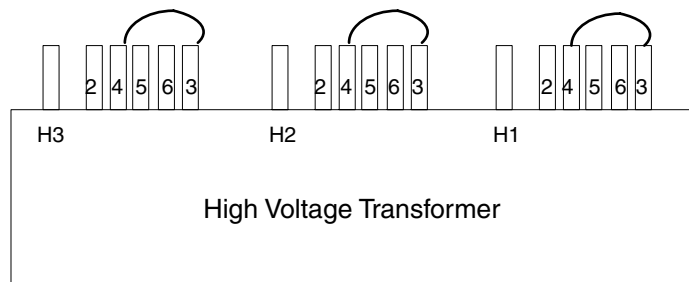

Figure 5-5 PDU Tap Positions (Rear)
- 4.) After you determine the nearest nominal line, verify the tap connections match. Refer to Table 5-1 and Figure 5-5 for tap locations.